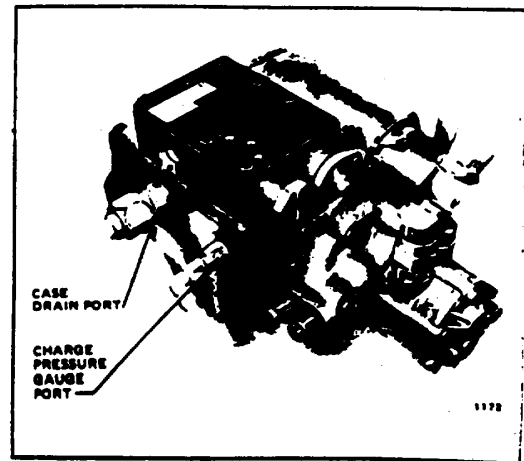

FIGURE 6. Location of parts when installing a new link and bell assembly.
- A. Unscrew the bushing, using care not to damage its O-ring. See Figure 6.